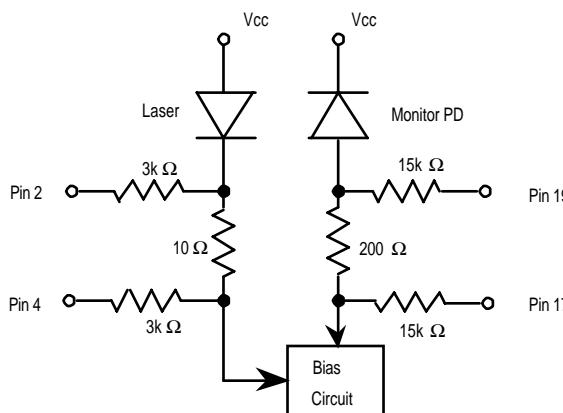

Figure 3 Monitor Circuit Schematic Diagram
7. The Laser Bias and Rear Facet Monitor currents are calculated as ratios of the corresponding voltages to their current-sensing resistors,  $10\Omega$  and  $200\Omega$ , respectively ( See Figure 3 ). Upon measuring or utilizing these values, use a device whose input impedance is high enough ( $>1M\Omega$ ) compared with those resistors.
3. Please refer to Figure 3 for Pin 2, 4, 17, 19.